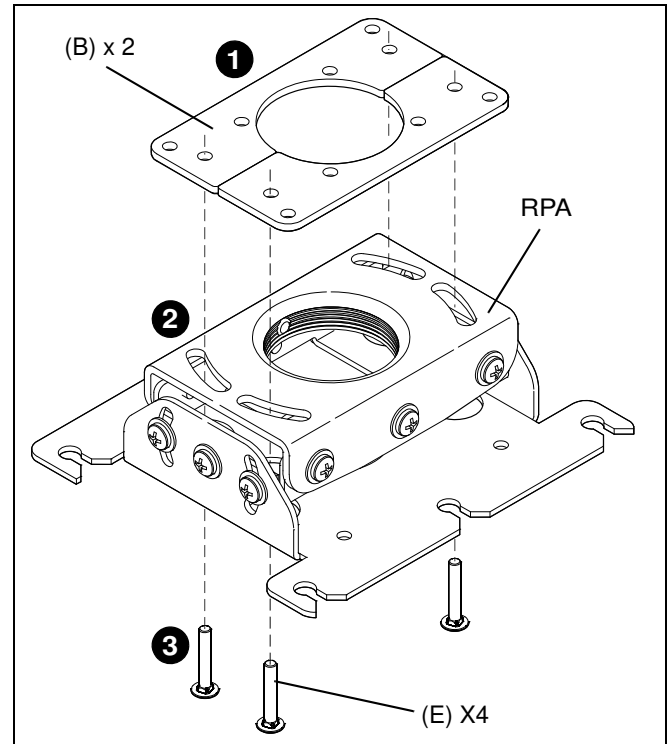

Figure 2
1. Orient two interface plates (B) as shown in figure below.
2. Align mounting holes in interface plates (B) with slotted holes in RPA. (See Figure 2)
3. Secure two interface plates (B) to RPA using four 1/4-20 X 1-1/2" carriage bolts (E). (See Figure 2)